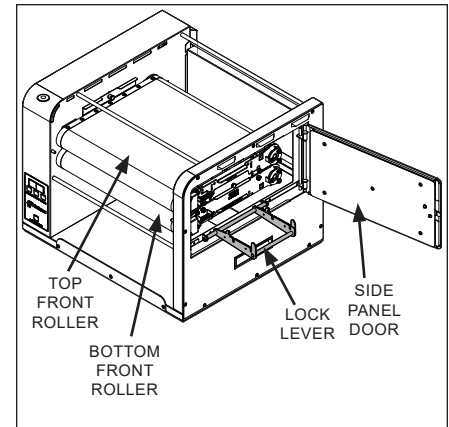

Figure 4. Open side panel
5. Unlock the side panel door using a screwdriver, coin, or similar tool. Open the side panel (Figure 4).
6. Unlock the Lock Lever (Figure 4).
5. Restore tension on the bottom belt by pushing UP and OUT (Figure 4).
6. Restore the tension on the top belt by pushing DOWN and OUT (Figure 4).